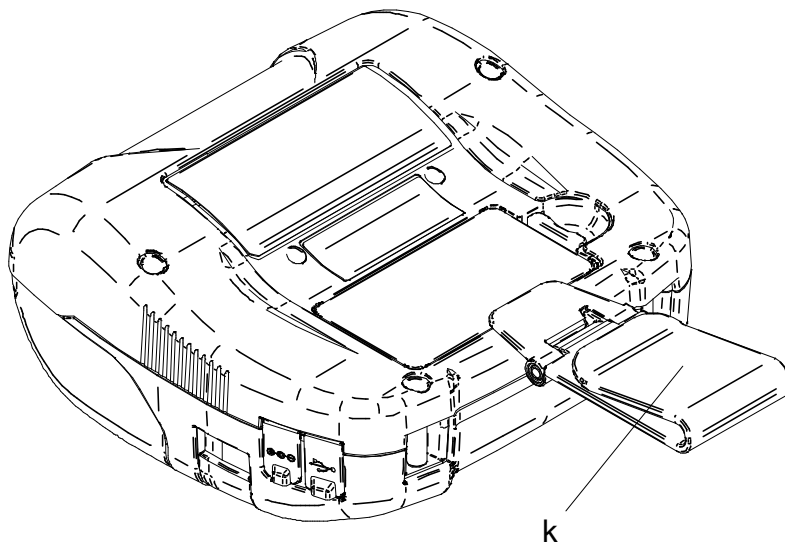

Figure 14-3 Belt Clip Installation (3)
- (5) Install the battery pack in the printer.
(6) Hook the part "k" of the belt clip in Figure 14-3 to your belt.